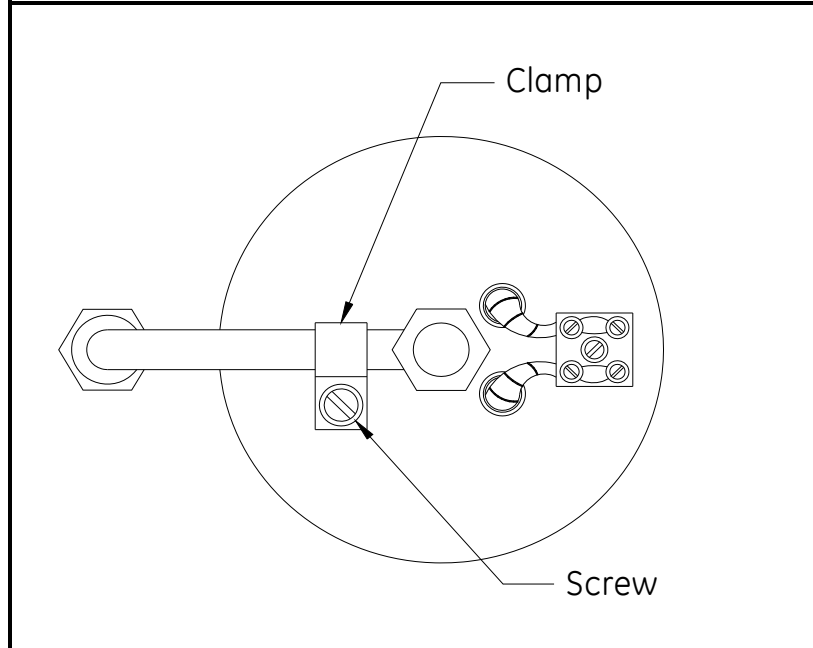

Figure 40: Convection Loop Clamp Location
9. Use a screwdriver to remove the clamp on top of the sensor furnace. **DO NOT** allow the sensor furnace to fall off the convection loop/oxygen sensor assembly as the clamp is being removed (see Figure 40).